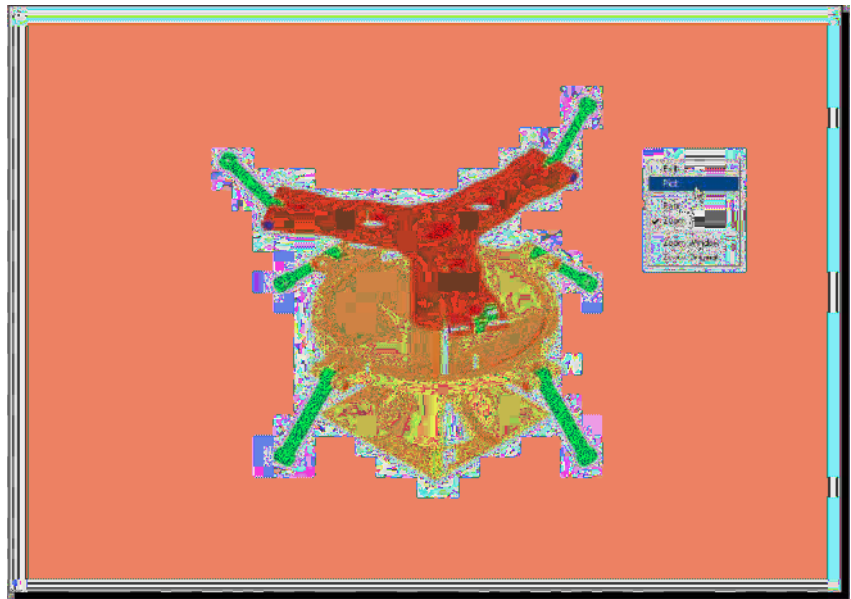

Fig. 19.11 Fourth example – Printing/plotting
Fig. 19.11 shows a **Plot Preview** of the 3D solid model in Fig. 18.31 from page 378.
9. Repeat in each of the viewports with different shapes of polygonal viewport outlines (Fig. 19.11).